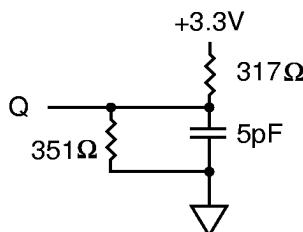
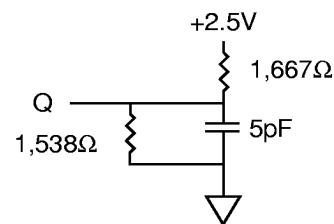

Figure 2
Figure 4
4. The load used for V_{OH}, V_{OL} testing is shown in Figure 2 for 3.3V I/O and Figure 4 for 2.5V I/O. AC load current is higher than the shown DC values. AC I/O curves are available upon request.
3. This parameter is measured with the output loading shown in Figure 2 for 3.3V I/O and Figure 4 for 2.5V I/O.